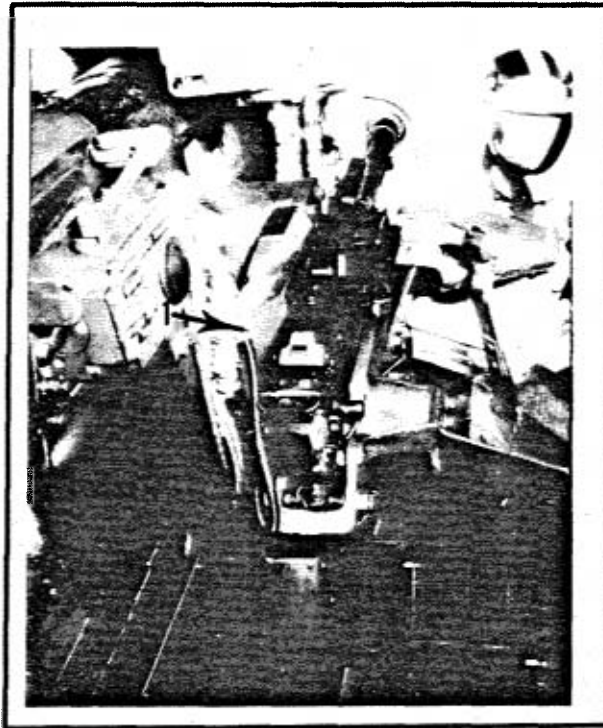

FIG. 3-83. PKT MOUNTED
6. Attach PKT solenoid cable to electrical socket located forward of the loader's safety (Fig. 3-83).